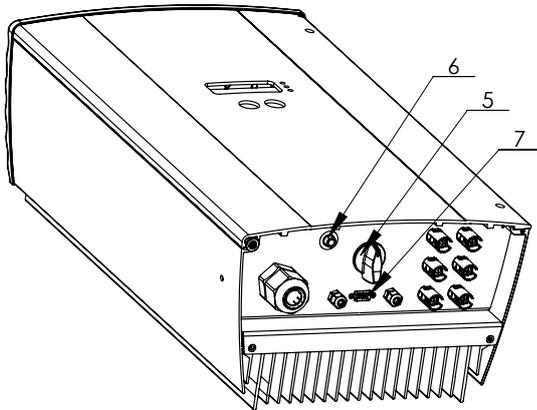

Figure 4.6: Underside of the Powador
To disconnect the inverter from the photovoltaic generator, turn the internal DC disconnecter on the underside of the inverter from the ON (1) position to the OFF (0) position (see figure 4.6).
To do this, press the “night start-up” key (see figure 4.6 - (6)) on the underside of the unit for approx. 5 seconds until a display appears.
Operating data can be transmitted to a computer (e.g. notebook) over a galvanically isolated serial interface (see figure 4.6 - (7)) from where it can then be individually processed further using standard spreadsheet software.